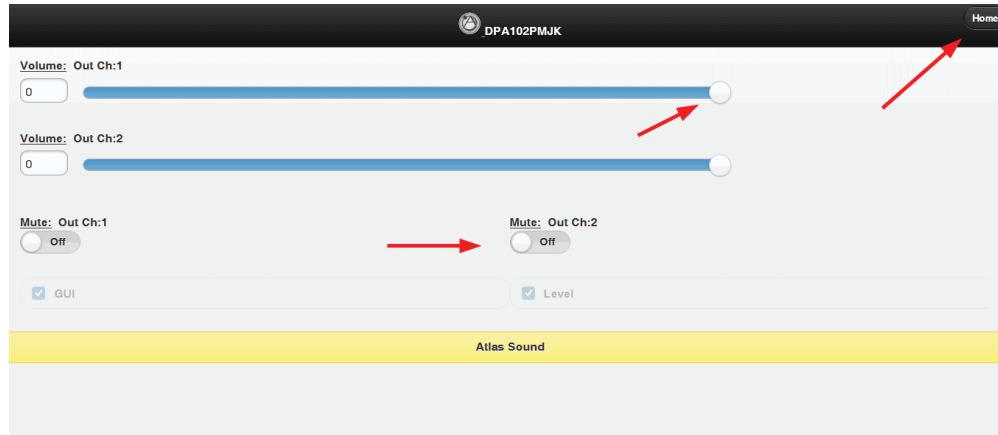

Figure 4
4. The GUI will open to a Mobile page as shown in Figure 4. Mobile access will allow for level adjustment and home page access once the administrator user name and password are accurately entered when prompted.